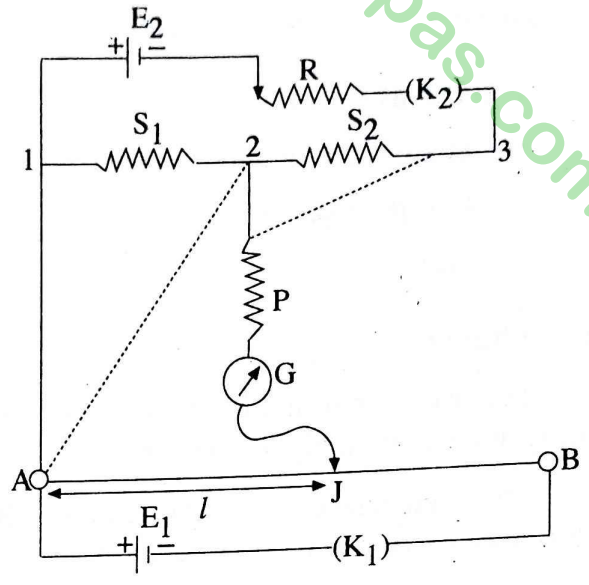

Fig. 15.19
- (i) Connections are made as shown in the fig. 15.19.
- (iv) Next A is connected to the terminal (2) and the galvanometer transferred to the terminal (3) The null point is located due to P.D. across S₂ near about the center of AB, this time also by adjusting R. After obtaining the approximate null point, the protective resistance P is removed and the exact balance point due to P.D. across S₁ and S₂ are located and noted.